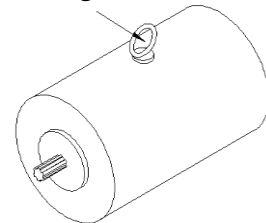

Figure 2-25
- (5) Figure 2-25 shows the lifting of the walking motor.